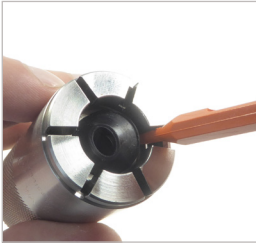

Figure 9
- ▶ Insert a suitable repair tool behind the front seal (Pos. 7) with the WEH® O-ring picker, part no. E98-101969, and remove it from the recess (*Figure 9*).